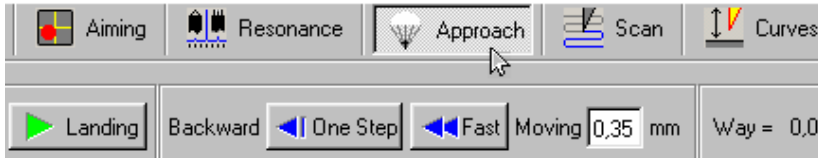

Fig. 4-43
- Shift to **Approach** window under **Approach** bookmark in the operations string (Fig. 4-43)